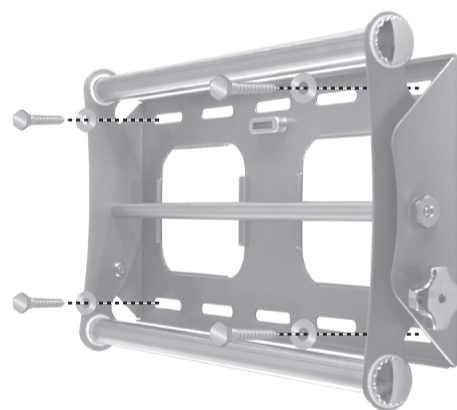

Fig. 1 - Attach the wall plate to the wall.
5. With the help of another person, replace the wall plate and fix it to the wall using the Lag Bolts (Q) and Lag Bolt Washers (R) provided (Fig. 1).
2. With the help of another person, mark off six (6) locations for fixing the mount to the wall.
4. Insert one Concrete Anchor (P) into each hole. A hammer can be used to lightly tap the anchors into place if necessary.